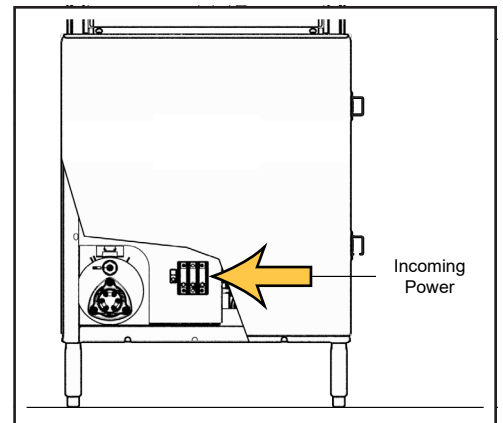

Fig. 11 - Main Terminal Block Location
1. Remove the front panel and locate the main terminal block in the lower right corner of the panel (see Fig. 11).